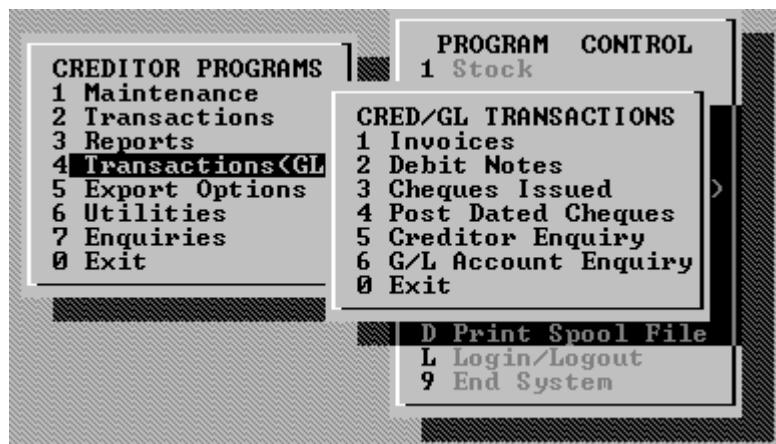

Figure 8-31: Creditors - Transactions (G/L) Menu
- Return to the CRED/GL TRANSACTION menu (**Fig 8-31**).